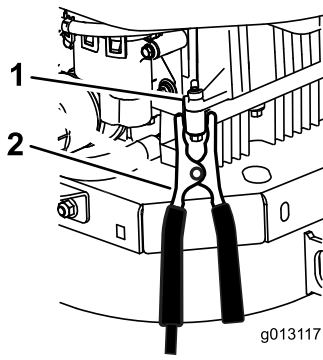

Figure 62
6. **Make the final connection on the engine block of the stalled vehicle (NOT to the negative battery post) away from the battery and stand back (Figure 62).**